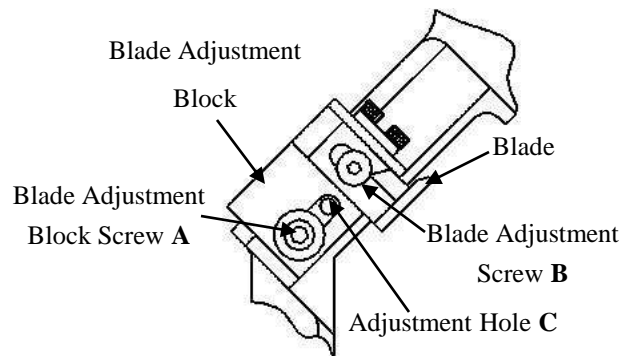

Figure 1
Blade Adjustment Options: There are two adjustments required to set the blade to the proper position and depth on the cable. The adjustment block can be aligned by loosening Adjustment Screw A in Figure 1. In addition, there is a second hole provided, Adjustment Hole C in Figure 1, to extend the position of the adjustment block. Which hole is used depends on the size of the cable. The blade can be adjusted by loosening adjustment screw B in Figure 1 and sliding the blade in the slot to achieve proper depth of cut.
3. Adjust the Blade depth by loosening Blade Adjustment Screw B in Figure 1 and position the blade to penetrate both the Outer Jacket and the CLX layers. The bottom of the blade will be just above the semi-con layer of the cable.